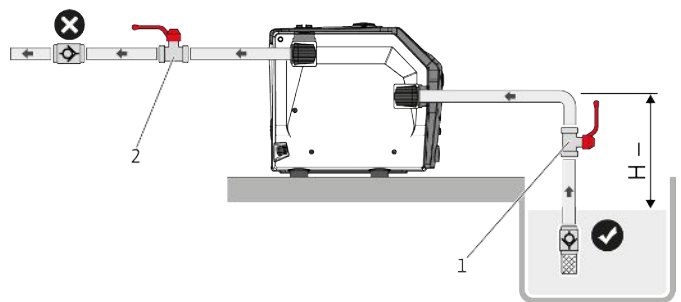
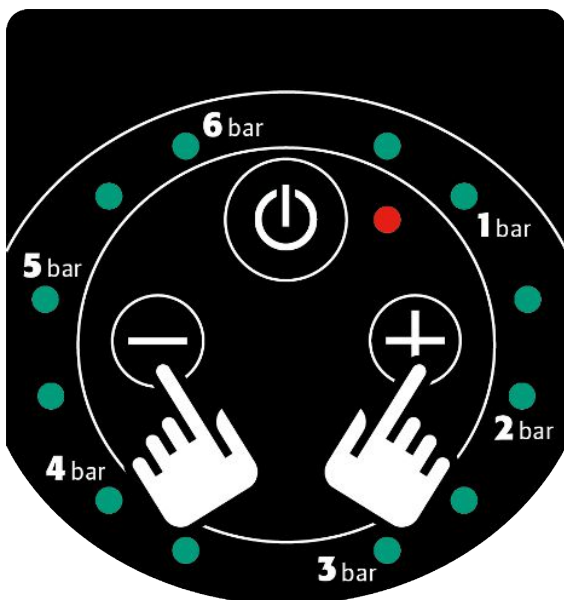

Fig. 7: Suction mode
Fig. 10: Operating buttons + and -
1. If the product is installed in suction mode (Fig. 7), press the “+” and “-” operating buttons simultaneously for 5 seconds (Fig. 10).
1. Close the gate valve (Fig. 7 – Item 1, 2) at the suction and discharge sides.